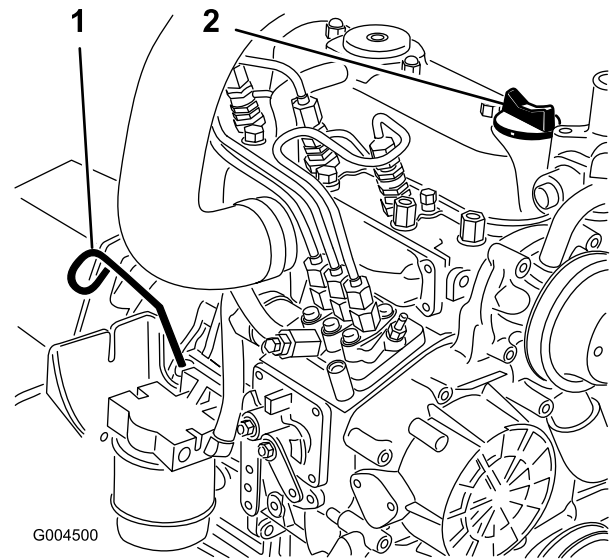

Figure 44
3. If the oil level is below the Full mark, remove the fill cap (Figure 44) and add oil until the level reaches the Full mark on the dipstick.
2. Remove the dipstick (Figure 44), wipe it clean, and install the dipstick. Remove the dipstick and check the oil level.